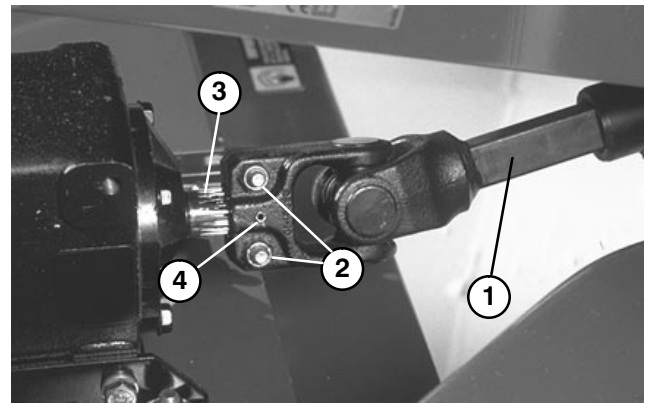

Figure 8
5. Slide male PTO shaft in female PTO shaft. Align gearcase input shaft with PTO shaft and slide together. Secure with roll pin and tighten bolts and locknuts (Fig. 8).